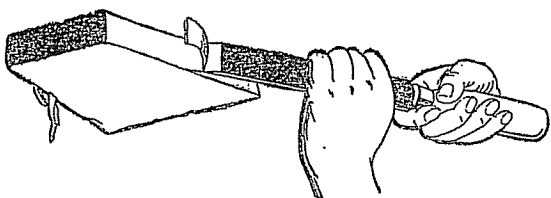

Fig. 4
**PARING WITH THE CHISEL.** In paring, the chisel should be reversed, that is, the flat side should act as a guide. The object in paring is to remove shavings rapidly. (See Fig. 4.) Note proper method of handling chisel for paring.